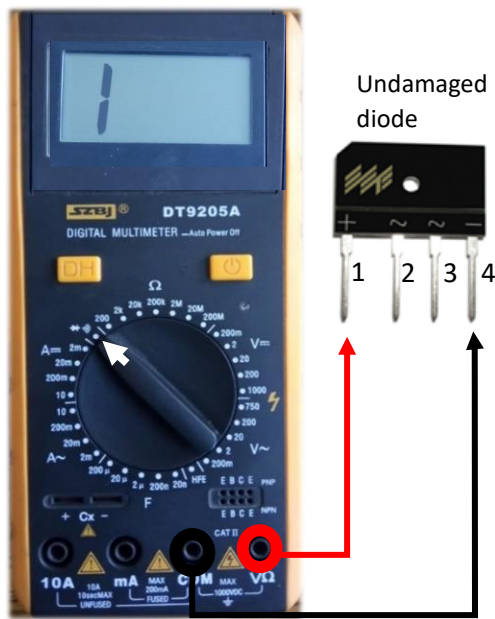

Figure 38
- 2) Now, as shown in Figure 38, place the red and black probes of the multimeter on the two terminals of the coil. If the coil is functioning properly, the multimeter will indicate continuity. If the multimeter signals an open circuit or displays a large number on the screen, it indicates that the coil is broken.